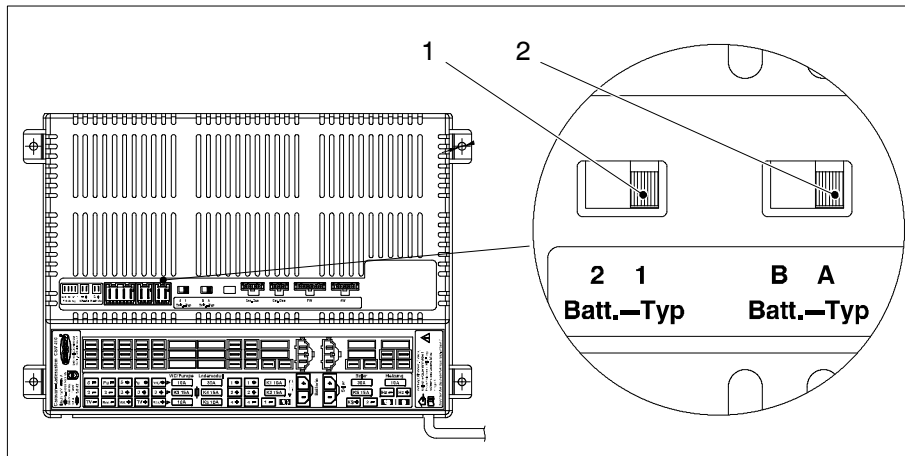

Fig. 1 Battery selector switch
- ▶ Move both battery selector switches (Fig. 1, Pos. 1) to the correct position using a thin object (e.g. a ballpoint pen):